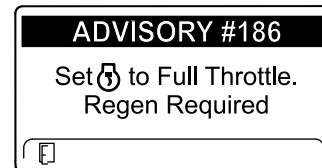

Figure 68
**Note:** If the engine exhaust temperature is too low, the InfoCenter displays ADVISORY #186 (Figure 68) to inform you to set the engine to full throttle (high idle).